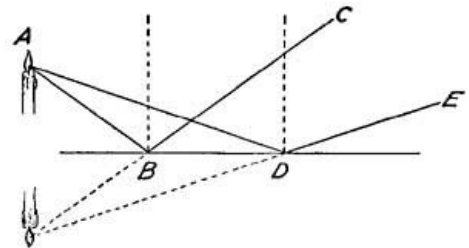

FIG. 62.—The image is a duplicate of the object, but appears to be behind the mirror.
**105. Why the Image seems to be behind the Mirror.** If a candle is placed in front of a mirror, as in Figure 62, one of the rays of light which leaves the candle will fall upon the mirror as  $AB$  and will be reflected as  $BC$  (in such a way that the angle of reflection equals the angle of incidence). If an observer stands at  $C$ , he will think that the point  $A$  of the candle is somewhere along the line  $CB$  extended. Such a supposition would be justified from Section 102. But the candle sends out light in all directions; one ray therefore will strike the mirror as  $AD$  and will be reflected as  $DE$ , and an observer at  $E$  will think that the point  $A$  of the candle is somewhere along the line  $ED$ . In order that both observers may be correct, that is, in order that the light may seem to be in both these directions, the image of the point  $A$  must seem to be at the intersection of the two lines. In a similar manner it can be shown that every point of the image of the candle seems to be behind the mirror.